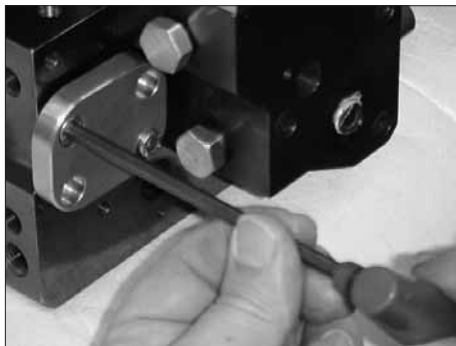

Figure 7-51 Removing the pump shaft end cap
6. See Figure 7-51. Using an M5 hex wrench, remove the pump shaft end cap.